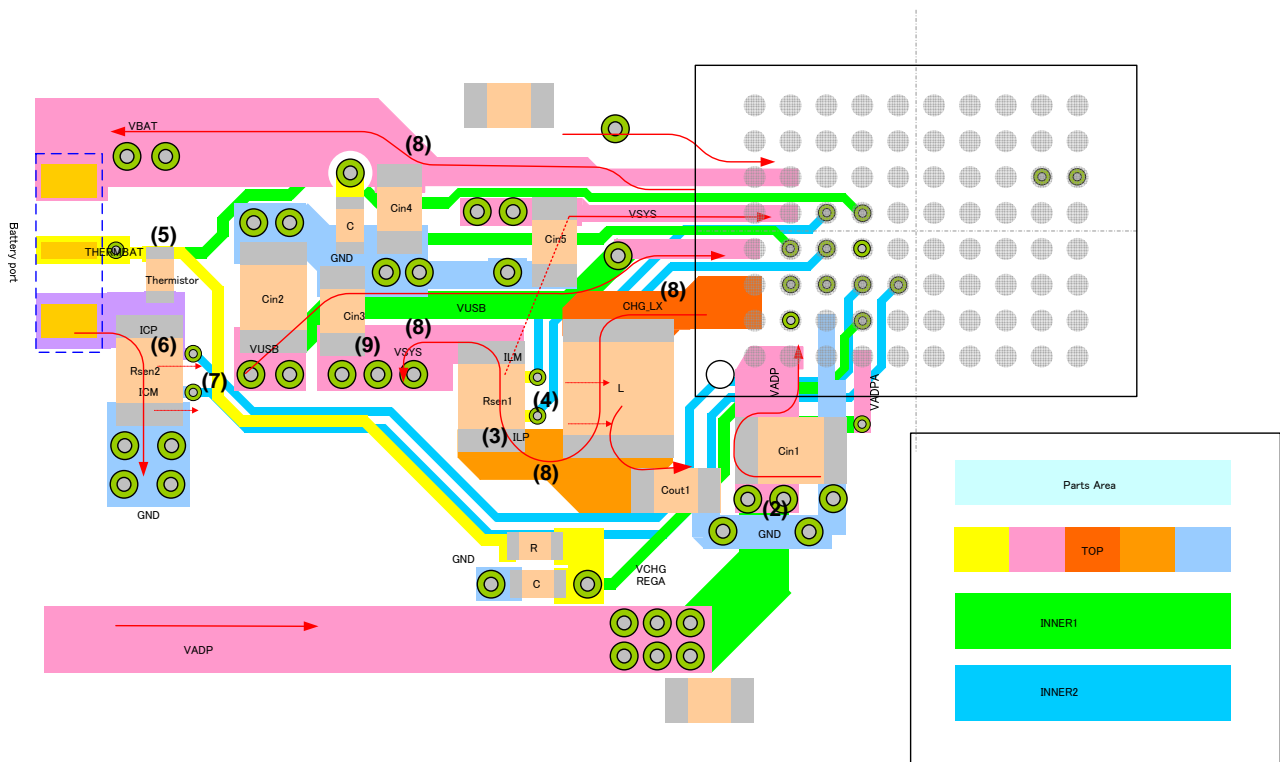

Fig. 1-4: Example of Charger Block Pattern (Top Layer)
- (1) Place the parts to minimize the switching current loop. (Figure 1-4: red line)
- (2) Place “VADP” capacitor as close as possible to RC5T619-1xxx, and route the line to RC5T619-1xxx short and widely in order to minimize resistance.
- (3) Because “ $R_{SEN1}$ ” is the resistance which fixes accuracy of the current, use the high accuracy it as possible. (Refer to the “Recommended External Parts List” on P.11)